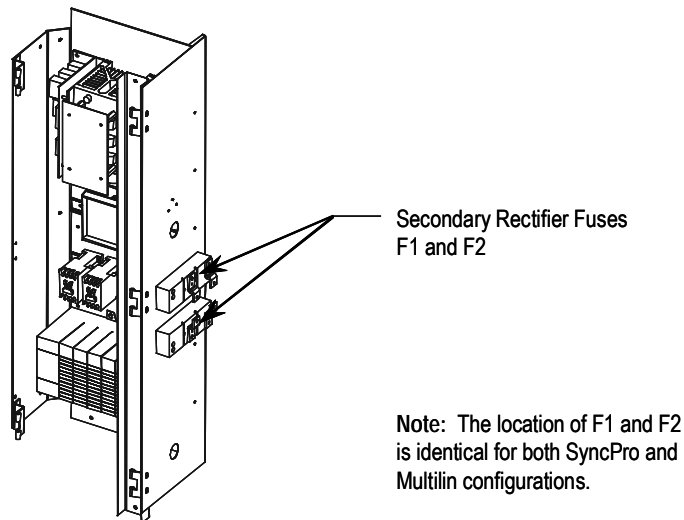

Figure 5.6 – Secondary Rectifier Fuses (SyncPro configuration shown)
- 3) Remove the secondary rectifier fuses F1 and F2 (see Figure 5.6)